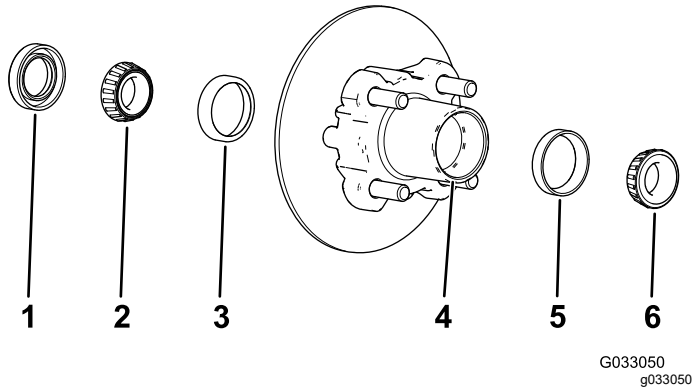

Figure 27
1. Remove the outboard bearing and bearing race from the hub (Figure 27).
2. Remove the seal, inboard bearing from the hub (Figure 27).
5. Clean the cavity of the hub of all grease, dirt, and debris (Figure 27).
7. Fill the cavity of hub 50 to 80% full of the specified grease (Figure 27).
8. Assemble the inboard bearing onto the race at the inboard side of the hub and install the seal (Figure 27).